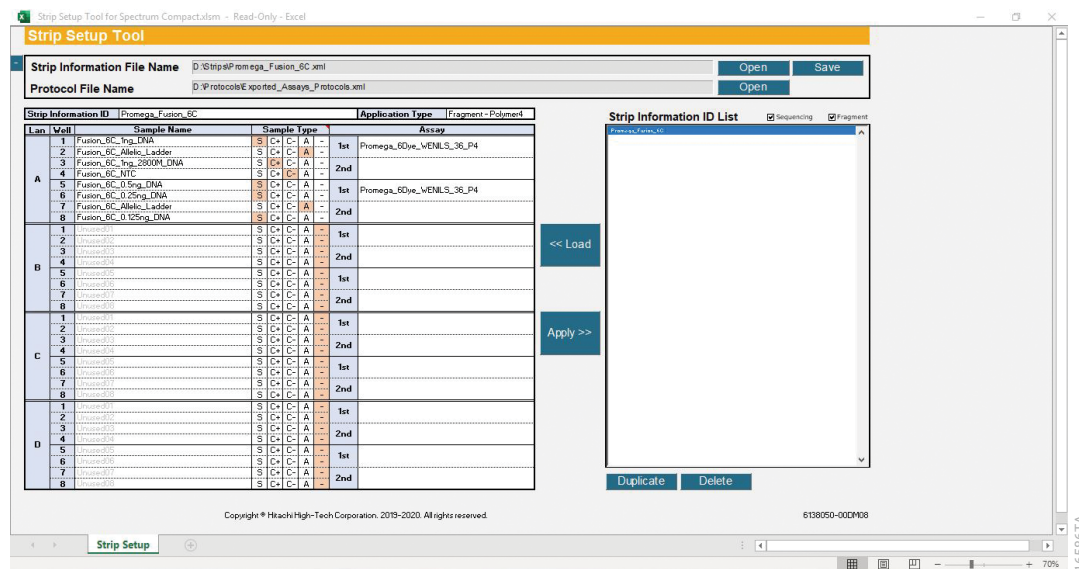

Figure 252. Strip Setup Tool for Spectrum Compact with Strip Information ready for editing.
3. The information for that strip now appears on the left-hand side of the screen (Figure 252).